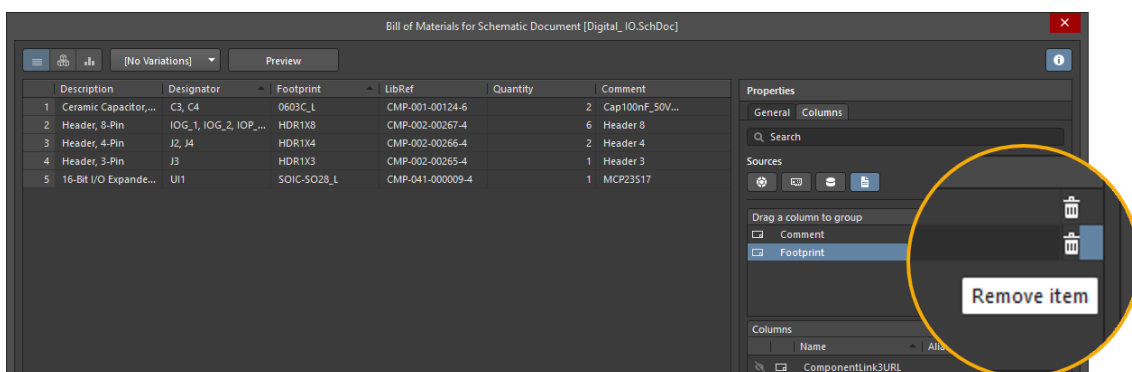

Figure 2. Deleting the existing grouping
11. Components appear individually on a single row if they are not grouped by any parameters. If the grouping already exists, you can delete it using the **Trash** icon next to the group name, as seen below, Figure 2.